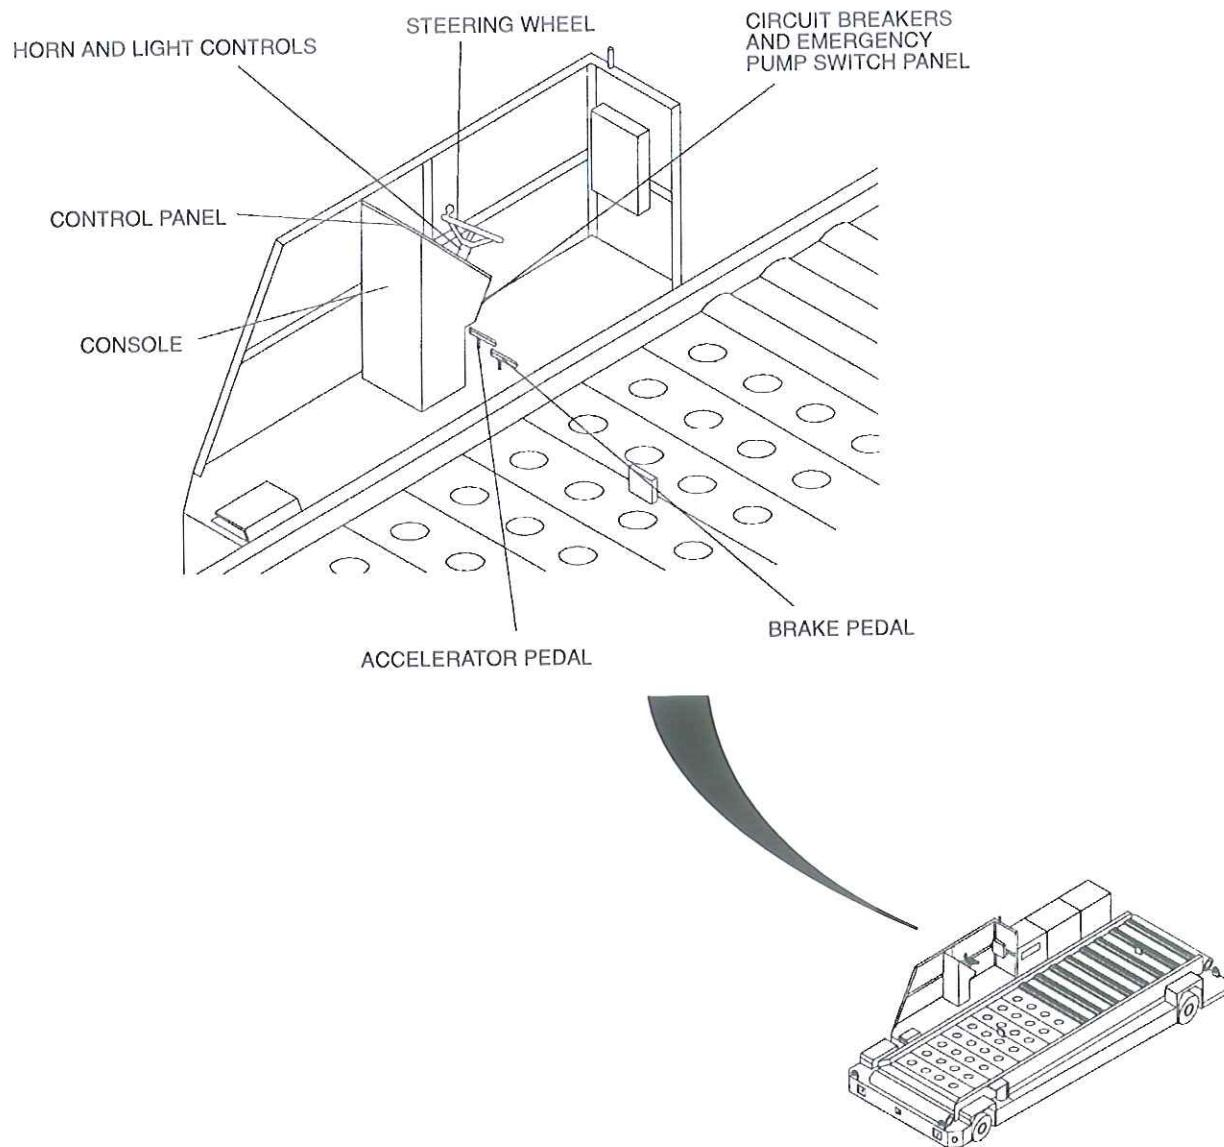

Figure 2
C. OPERATOR'S COMPARTMENT CONTROLS (SEE FIGURE 2)